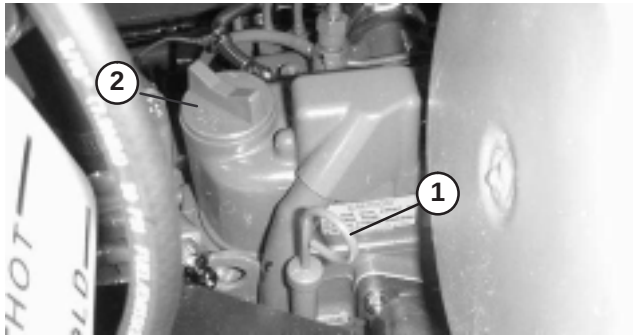

Figure 15
2. Remove dipstick (Fig. 15), wipe clean and reinstall dipstick. Remove dipstick and check oil level. Oil level should be up to FULL mark on dipstick